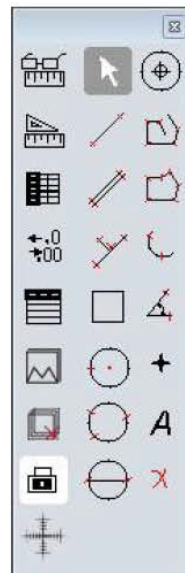

Fig.4-5. measurement
(8) Click on **Measure** tab to get measurement functions (Fig.4-5).
(9) It is allowed to apply measurements to the live and still images. To get more details about measurement, please read the TCapture software manual.